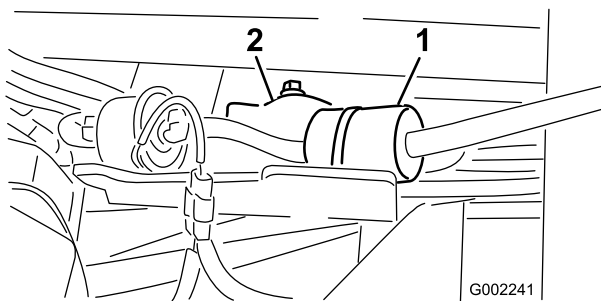

Figure 45
4. Loosen and slide the hose clamps away from the filter (Figure 45).